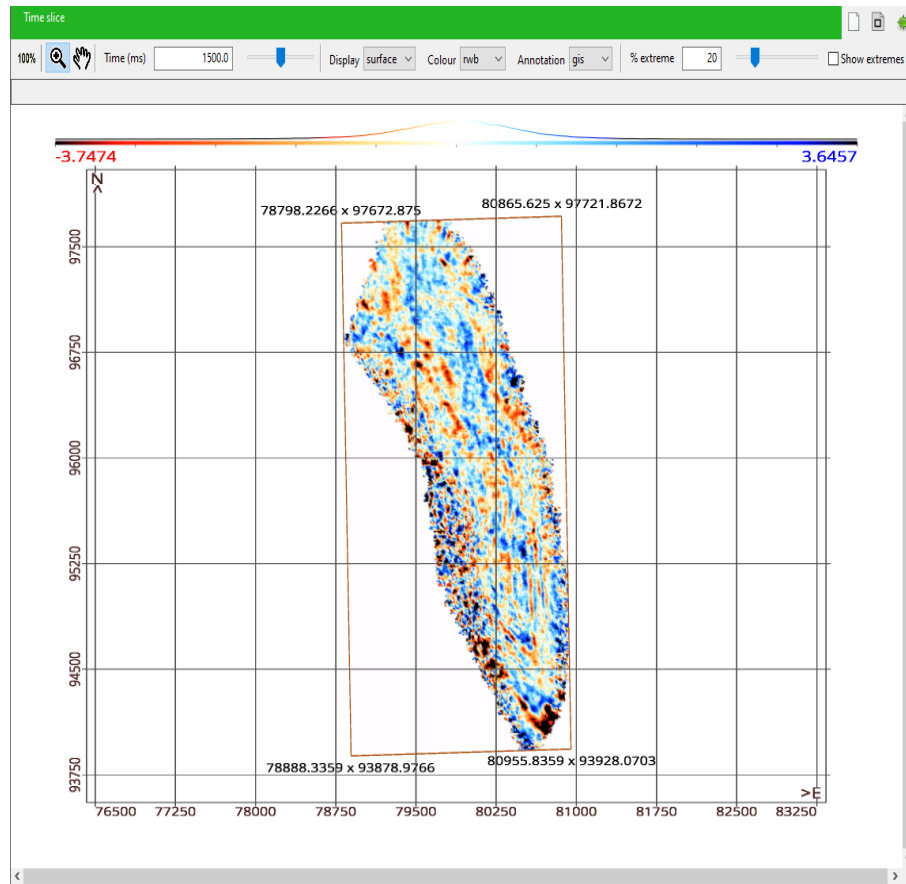

Figure 4-9 QC Time slice image
1. Right-click on the required SEGY file listed in the left-hand panel. Select **Time slice** from the popup menu options. A scaled image will open in the right-hand Minima display panel (Figure 4-9).